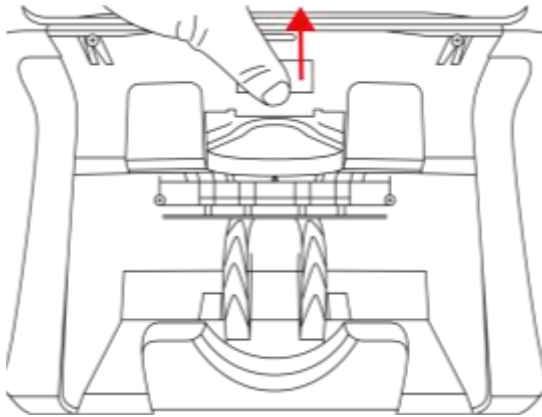
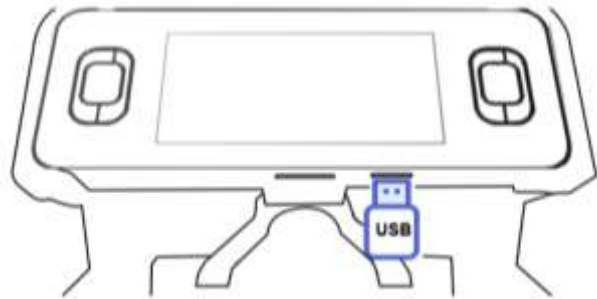

Figure 123
Figure 124
1) With the machine turned off, press as shown in Figure 123. Open the front cover, and plug the U-disk into the USB port under the display of the machine, as shown in Figure 124.